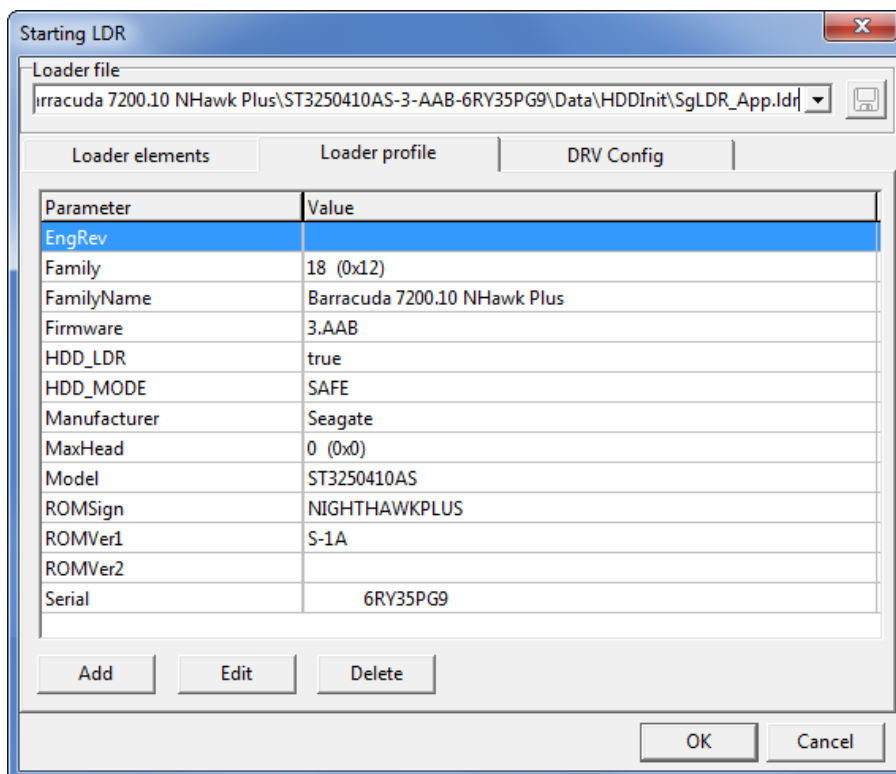

Fig. 6.29.
- ◆ The Loader profile tab contains information about the HDD from which a loader has been read (Fig. 6.29).